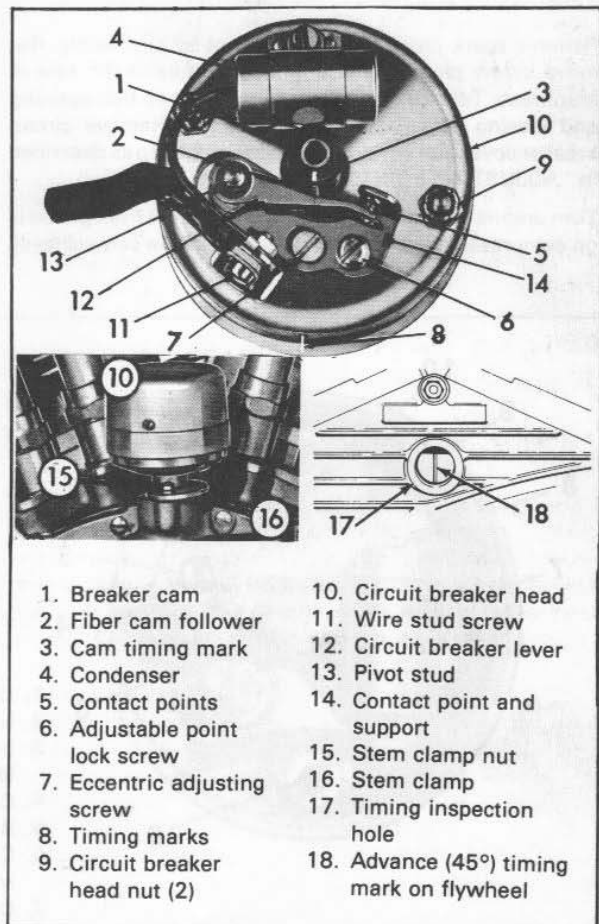

Figure 5-18. Circuit Breaker (1970)
See Figure 5-18 and proceed as follows:
and continue turning engine very slowly (less than 1/2 revolution) until advanced timing mark on flywheel is aligned in inspection hole, as shown in Figure 5-18.
Timing mark (3, Figure 5-18) on cam is the approximate point at which contacts (5) open and front cylinder ignition spark occurs. When the wide cam lobe opens the points, rear cylinder ignition spark occurs. Connect a circuit tester such as a light bulb across the contact points to determine the exact point of contact opening. Loosen circuit breaker clamp nuts just enough to shift circuit breaker head (10) so
#### REMOVING CIRCUIT BREAKER FROM ENGINE (Figure 5-18)
Inspect circuit breaker contact points (5, Figure 5-18). If lever fiber (2) is badly worn, replace points. Points that are burned or pitted should be replaced or dressed with a clean, fine cut contact point file. Do not attempt to remove all roughness nor dress point surfaces down smooth; merely remove scale or dirt. Contact point file should not be used on other metal and should not be allowed to become greasy or dirty.
To replace a set of circuit breaker points, loosen screw (11, Figure 5-18) and slip condenser wire and connection from screw. Lift circuit breaker lever (12) from screw (11) and pivot stud (13). Remove screw (6) and circuit breaker contact point and support (14). Install new points in reverse order of disassembly. Position circuit breaker lever (12), lever notch registered with screw (11), between brass washer and condenser wire end. Be sure point faces seat squarely against each other. Adjust point gap as previously described in "ADJUSTING POINTS."
Remove spark plugs to permit engine to turn easily; remove screw plug from timing inspection hole in left side of crankcase. Telescope front push rod cover so that opening and closing of valve can be observed. Turn engine in direction in which it runs until front piston is on compression stroke (just after front intake valve closes) and continue turning engine very slowly (less than 1/2 revolution) until advance timing mark (Figure 5-18) on flywheel is aligned in the inspection hole.
Assemble circuit breaker as follows: Lubricate camshaft end of shaft and stem assembly (24) and install breaker cam (18) on camshaft so that notches in cam engage with flyweights (20). Place breaker base (10) on stem and shaft assembly. Install nuts and washers (21). Do not overtighten. Install new seal (17). Before installing circuit breaker, turn shaft gear to approximately align cam mark (3) with cam follower (2) as shown in Figure 5-18. Insert circuit breaker into gearcase with wire toward rear of engine. This will position circuit breaker points to outside of engine permitting access to adjusting screws when cover is removed.